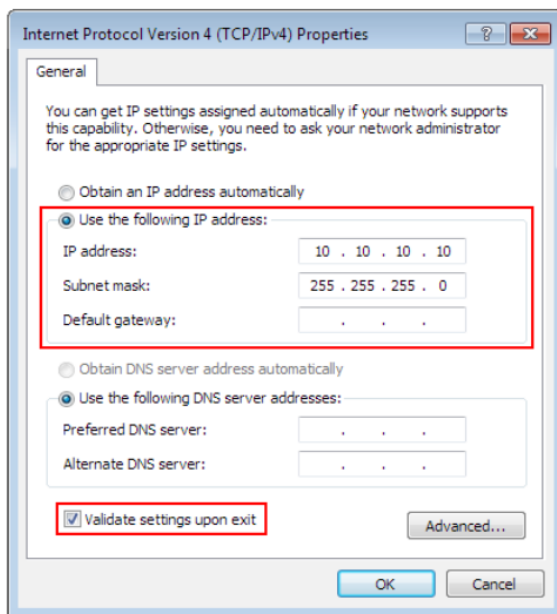

Figure 31: Network settings that need to be set prior to running the machine
- On the pop up Internet Protocol Version 4((TCP/IPv4) properties window select the “Use the following IP address” option and fill in the IP address of the UC400ETH device and set the Subnet mask. The default IP address of the UC400ETH is 10.10.10.10 (this can be changed, refer to the UC400ETH manual for more details) and set the subnet mask to 255.255.255.0 value. Figure 31 shows the IPV4 network IP address that needs to be set.